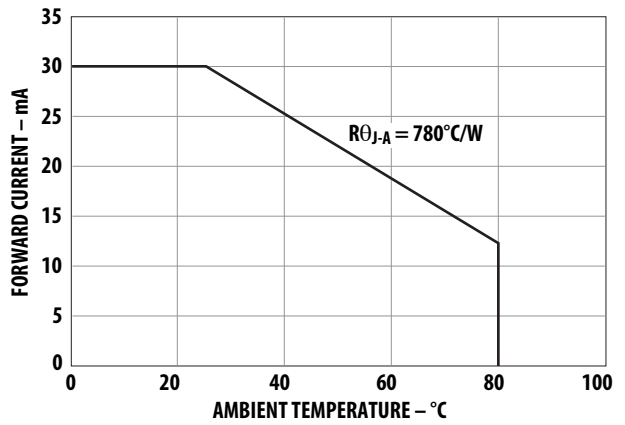

Figure 4. Maximum forward current vs. ambient temperature based on $T_{jmax} = 115^{\circ}C$
1. Derate linearly as shown in Figure 4.